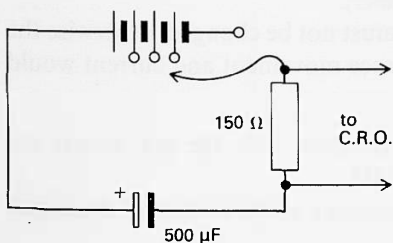

Figure B44
- B14c** In order to find out precisely how the current in the circuit changes during charge and discharge, an oscilloscope can be used to measure the changing potential difference across a known resistance (figure B44). When using the oscilloscope ensure that: